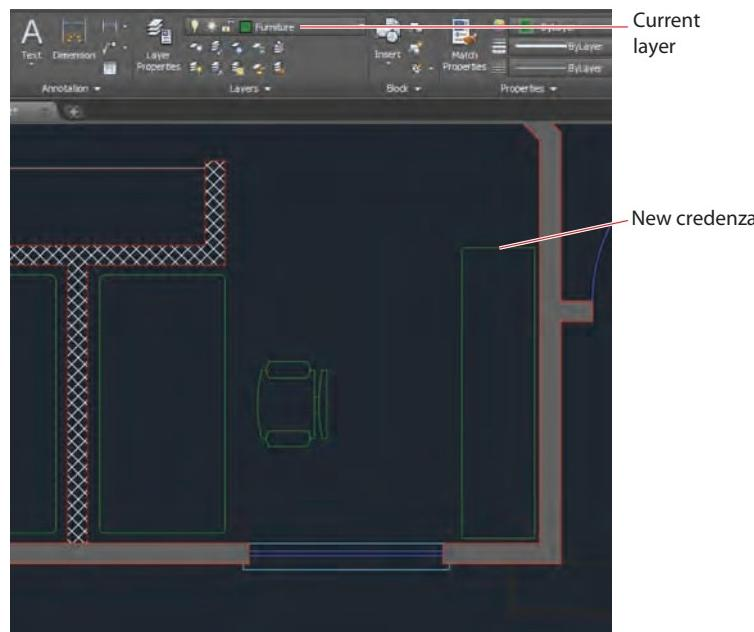

FIGURE 6.7 Drawing another credenza on the Furniture layer
6. Click the Rectangle tool on the Draw panel, and click a point a few inches (without measuring) from the lower-right corner of the room. Type @-18,72 (or @-45,180 for metric) and press Enter to create a credenza in Marketing (see Figure 6.7).